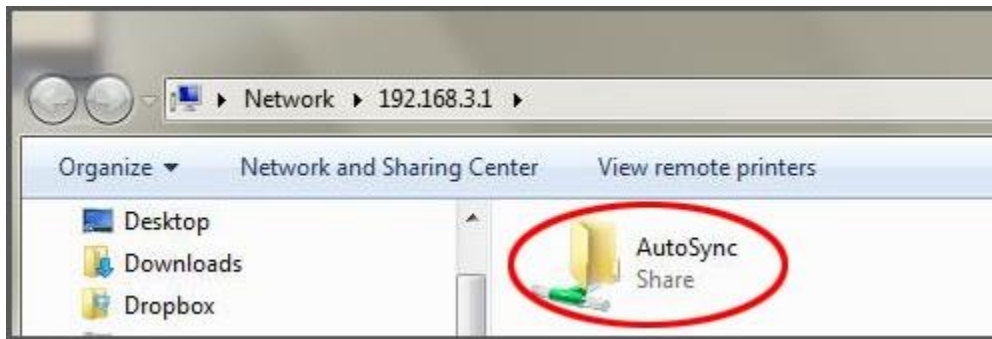

Figure 35 AutoSync screen
7. You should see the following: (Figure 35)
8. Drag and drop files to be transferred into the AutoSync folder (Figure 35).